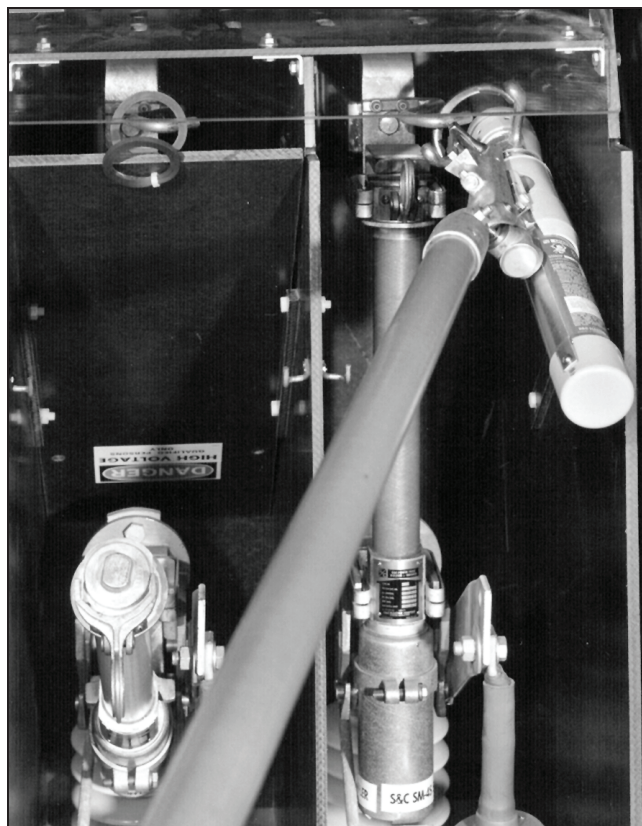

Figure 8. The Loadbuster tool’s anchor connected to an attachment hook.
- STEP 1.** Reach across in front of the fuse unit or holder with the Loadbuster tool and hook the anchor, located at top of the Loadbuster tool, over the attachment hook on the far side of the fuse unit or holder. See Figure 8. Only one attachment hook is provided.